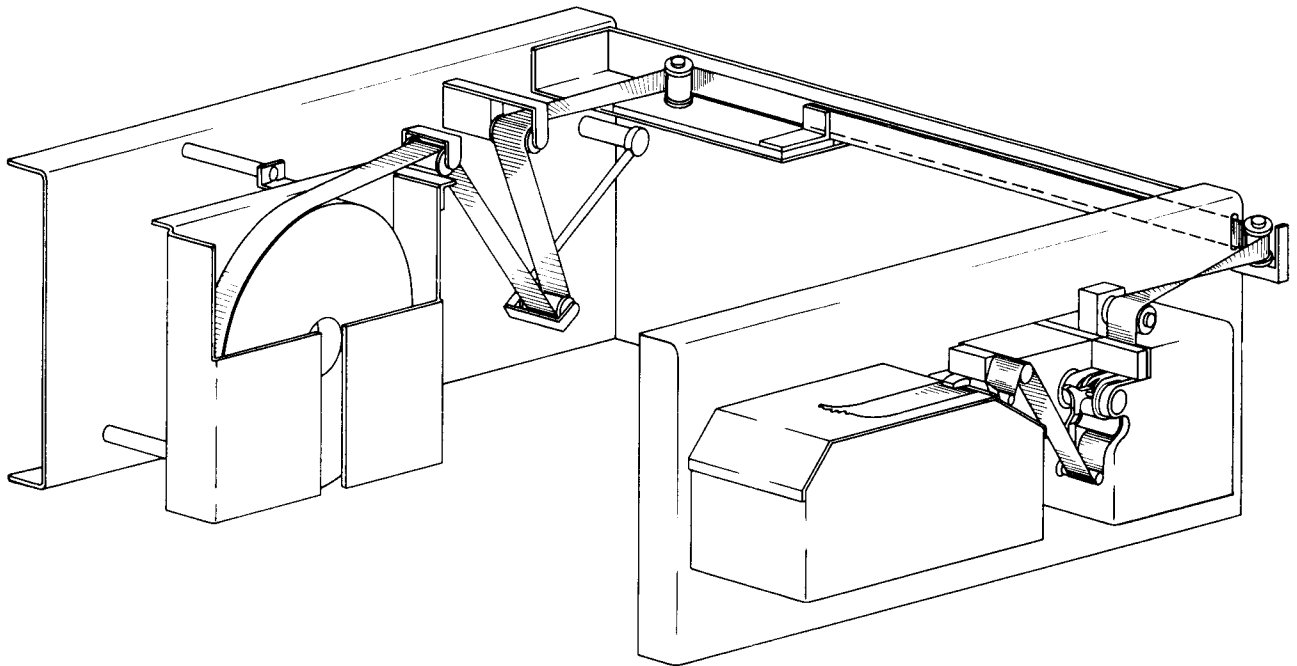

Figure 3-2. Perforator-Reader, Tape Loading
(1) **BEFORE USE.** - Check that the oil level in the perforator is up to the line on the oil level sight; if it is not, add oil (refer to paragraph 3-6, d). Release locks on drawer handles and pull perforator-reader out of the drawer to the stop limits. Remove the chad collector (figure 1-1) and empty all chad; replace chad collector. Place a supply of tape in the tape supply assembly. Thread the tape as shown in figure 3-2. Grasp front panel handles and push perforator-reader back into drawer. Pull the small tab on the perforator tape guide slightly away from the chad chute so that the paper tape can enter the tape guide. The perforator feed hole punch pin may have stopped in a position which would prevent the tape from entering the space between the die plate and the punch pin guide block. In this event, place **POWER** switch to **OFF**. Rotate the motor pulley manually until the center of the routed-out portion of the timing disc is toward the perforator motor, 90 degrees from vertical. Thread the paper tape under the die plate, and push the tape guide tab toward the chad chute. Pull the tape depressor away from the sprocket, and pull the paper tape over the sprocket. To make sprocket holes in new paper tape, push the tape against the sprocket pins until the pins are forced through the tape. Lower tape depressor over the paper tape. Run approximately 12 inches of tape through the perforator, punching only
a. Reperforator Distributor-Transmitter TT-268/UG (perforator-reader) consists of the electrical equipment case (drawer), the Super-Speed Tape Perforator Model GP-2 (perforator), and the Transmitter-Distributor TT-187/UG (reader). The electrical equipment case (drawer) serves to enclose the perforator, the reader, and the other components of the perforator-reader. The drawer may be mounted in a standard electronic equipment rack. Two slides, one on each side of the drawer, are provided so that the main frame assembly can be pulled out of the drawer for servicing components. A capacitor, a timer, the two driving motors, terminal boards, and the front panel are secured to the main frame assembly. The perforator and the reader are shock mounted, and extend partly through the front panel. Four switches mounted on the front panel control input power to the driving motors. Signal inputs to the perforator, and outputs from the reader and the perforator synchronizer are connected through terminal boards mounted on a plate located at the rear of the drawer. The capacitor is used as a phase splitter to start the perforator drive motor. The timer is a standard unit which indicates the perforator motor running time in hours and tenths of hours. Chad, produced by the punching operation of the perforator, is pushed through a chad chute into the chad collector. Tape is stored in the tape supply assembly, and is guided through the perforator and the reader as shown in figure 3-2. The operation of the mechanical components of the perforator generates a large amount of heat. Air is pulled in the side of the drawer by a vane-axial blower mounted on the perforator drive motor shaft, forced through a duct, through the cooling fins on the punch, then exhausted at the front of the punch. Resistors and silicon diodes which form the perforator input circuit are mounted on a terminal board located behind the tape supply assembly.